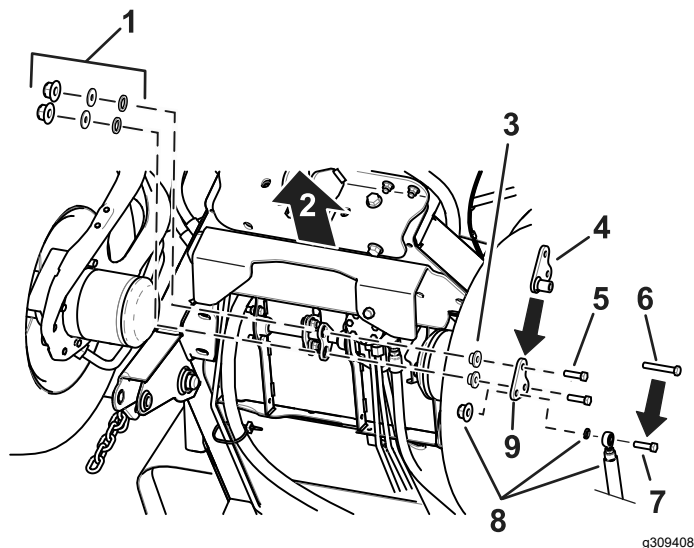

Figure 3
1. Remove the existing spacer from the machine as shown in Figure 3.
2. Install the new pedal spacer and with the new bolt (3/8 x 2-1/2 inch) and the existing hardware; refer to Figure 3.